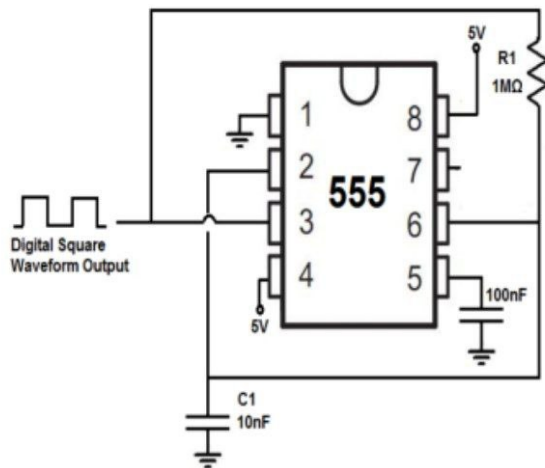

Fig. 1. 555 timer circuit
- 1) First, connect the 555 timer circuit to generate a Square Waveform Output as shown in figure 1